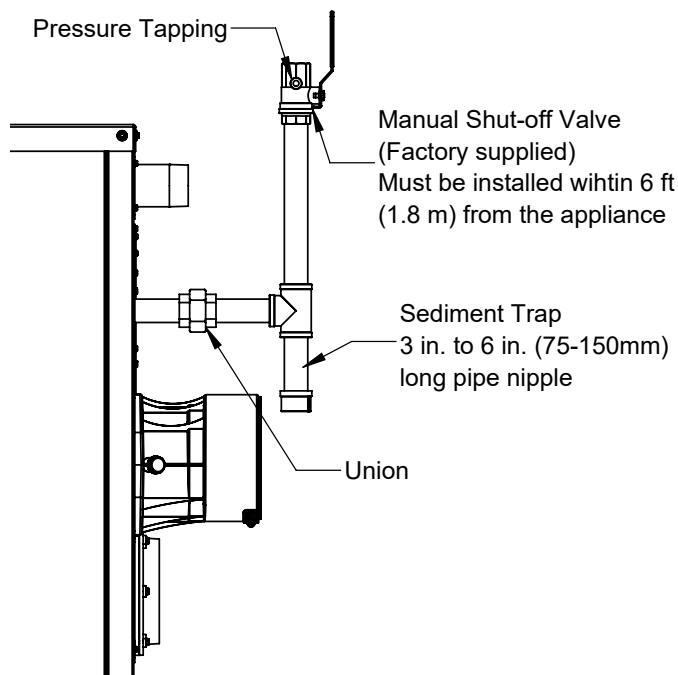

Figure 19: The CTD 400-1000L Gas Connection
1. A manual shutoff valve is shipped loose with the appliance and should be installed as shown in Figure 19 with a sediment trap.